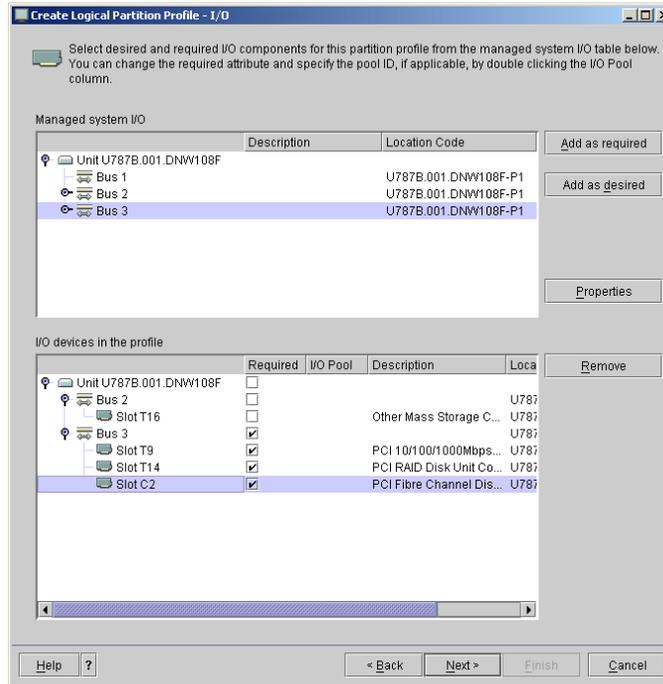

Figure 4-15 VIO\_Server2 physical component selection
- b. On step 10, allocate an unused Ethernet card slot and another storage controller slot to provide physical devices to our Virtual I/O Server. In our case, we had allocated Bus 2 Slot C4 and Bus 3 Slot T10 for the Ethernet and Storage controller, as shown in Figure 4-15.